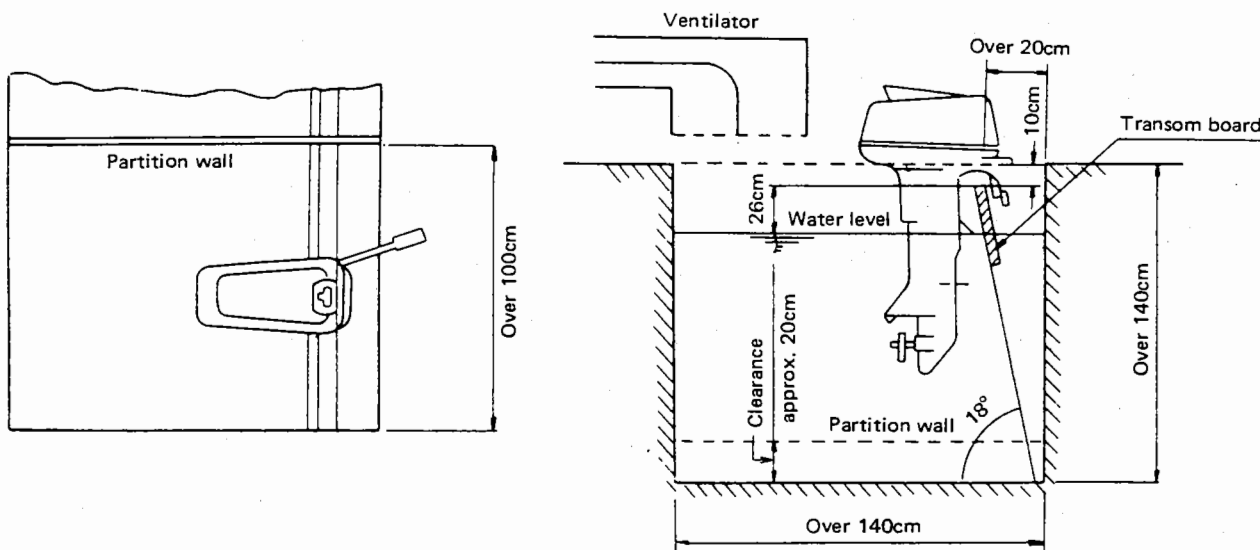

Fig. 16-2 Water tank
- a) Minimum tank dimensions are given in Fig. 16-2.